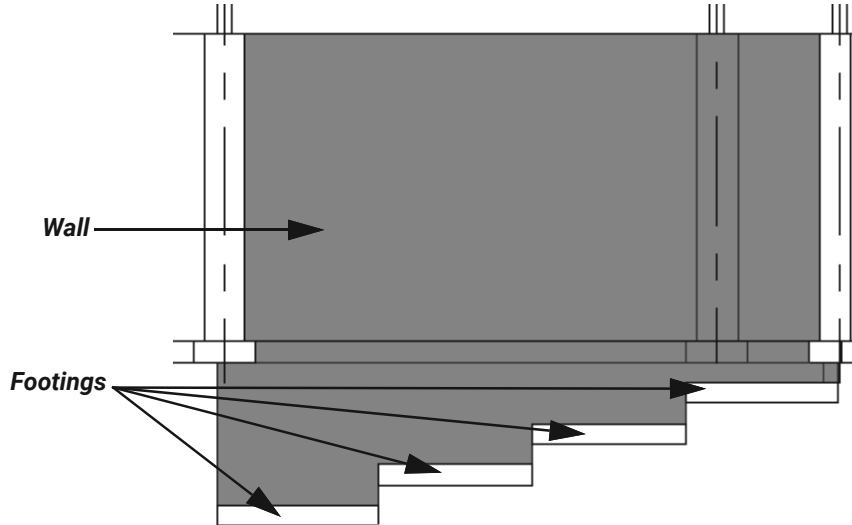

Figure 7–62
6. Click  (Finish Edit Mode). The wall profile is modified along with the footings, as shown in Figure 7–62.